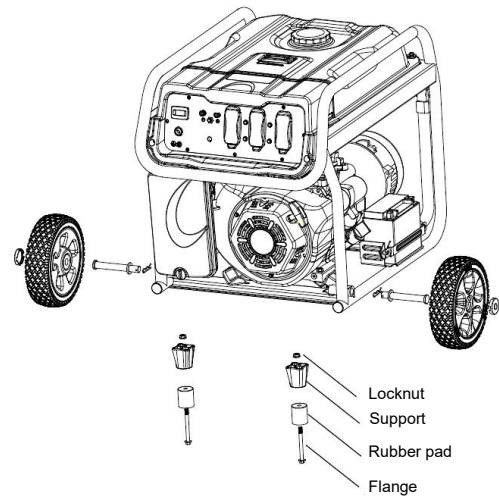

Fig. 7: Mounting of the wheels and bumpers
Step 2: Slide on the hub, wheel and flat washer, then insert the cotter pin through the wheel axle hole. Bend the cotter pin tabs outward to lock the pin in place. (Fig. 7).
Mount the bumpers as shown in Fig. 7: